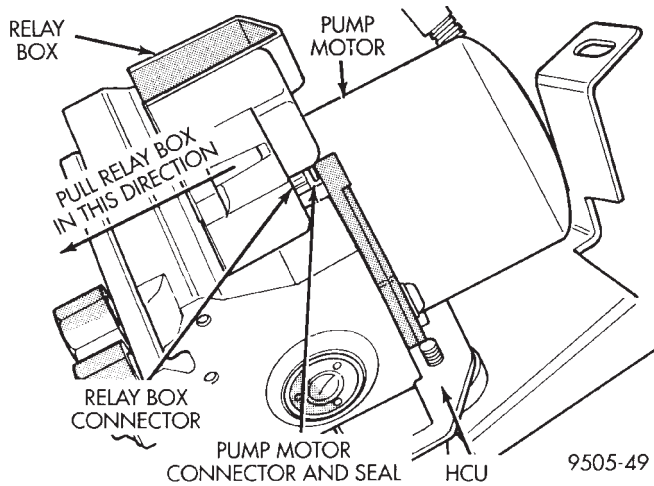

Fig. 26 Relay Box To HCU Electrical Connection
(4) Grasp relay box with both hands. Without twisting or rocking, pull relay box away from pump motor housing until connector on relay box unplugs from the pump motor terminal (Fig. 26). **This is a tight connection, relay box will require a good amount of force to unplug it from the pump motor.**
- (5) Remove relay box from HCU.